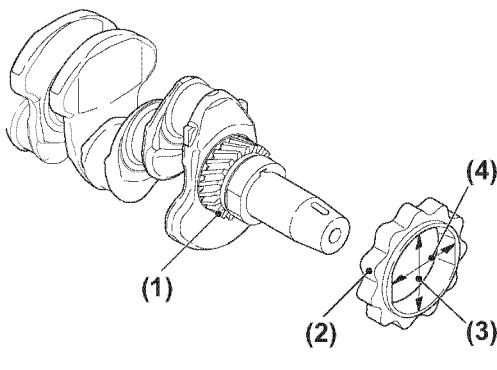

Figure 8-17
4. Inner rotor and gear boss clearance for 3JH4E and 4JH4AE (**Figure 8-17**).